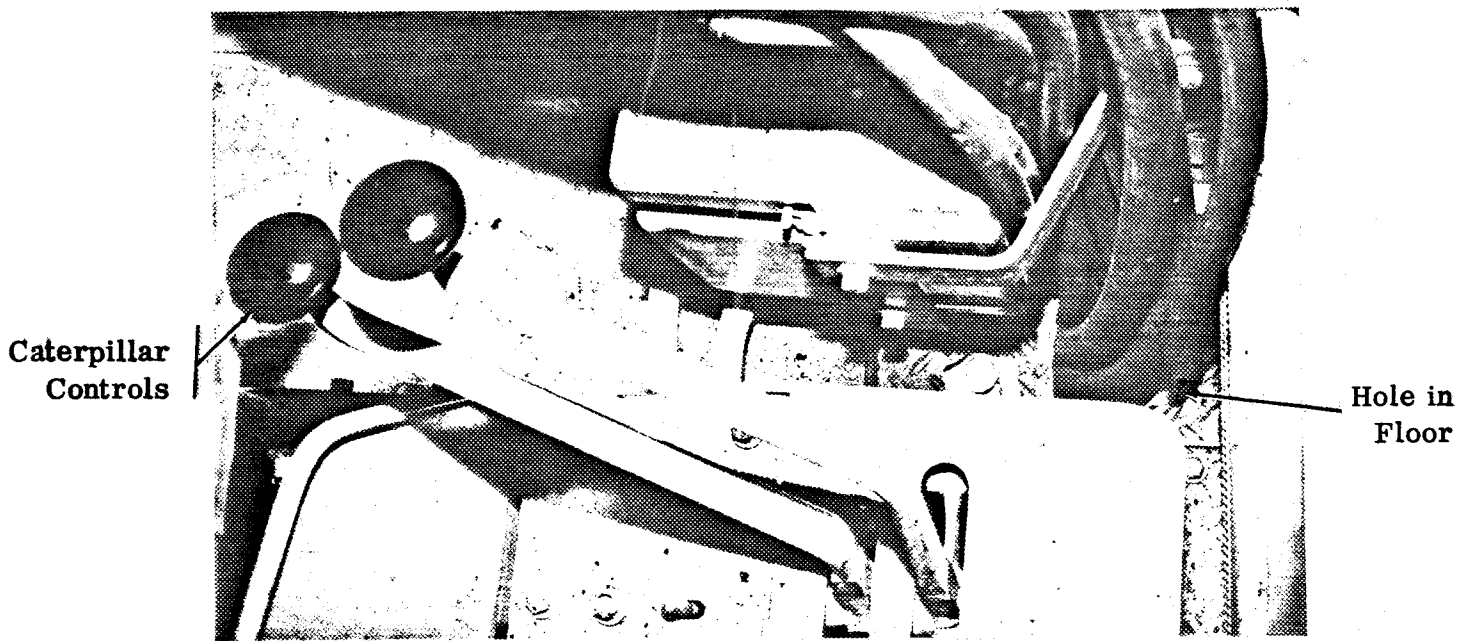

Figure G-6. Hose Routing
7. Cut a 4" square or 5" diameter round hole in the floor of the cab as shown in Figure G-6.